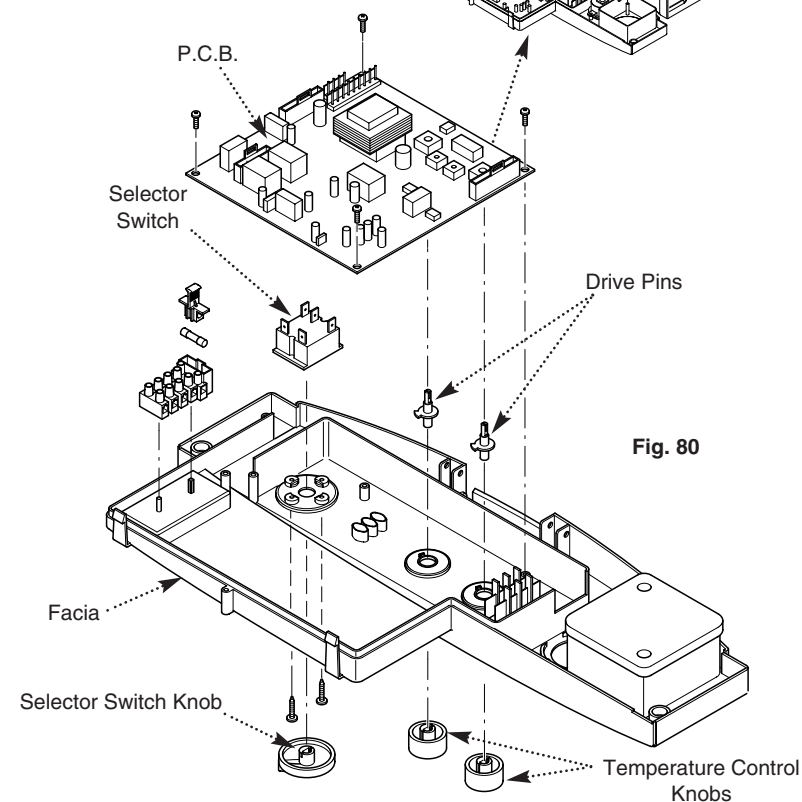

Fig. 80
1. Note the settings of the temperature control knobs. Rotate the knobs fully anticlockwise and pull them off the drive pins (Fig. 80).
5. Reassemble in reverse order, ensuring that the temperature controllers are reset to their previous positions (Fig. 80).
1. Note the setting of the selector switch knob and carefully pull it off the facia (Fig. 80).
4. Remove the screws securing the switch to the facia panel (Fig. 80).